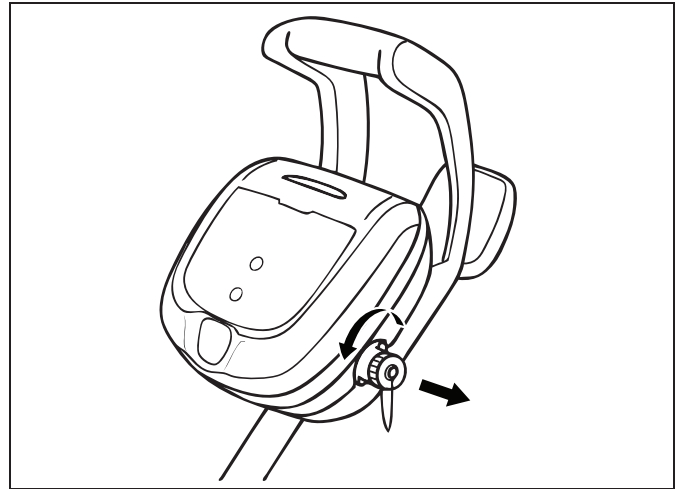

Figure 12. Remove Protective Cap
- **U.S.:** Per NEC® requirements, keep the control unit at least five (5) ft. (1.5 m) from the edge of the pool. **CANADA:** Per CEC™ requirements, keep the control unit at least three (3) m (10 ft.) from the edge of the pool.
1. Unscrew the protective cap for the power cable from the side of the control unit by turning counter-clockwise (Figure 12).